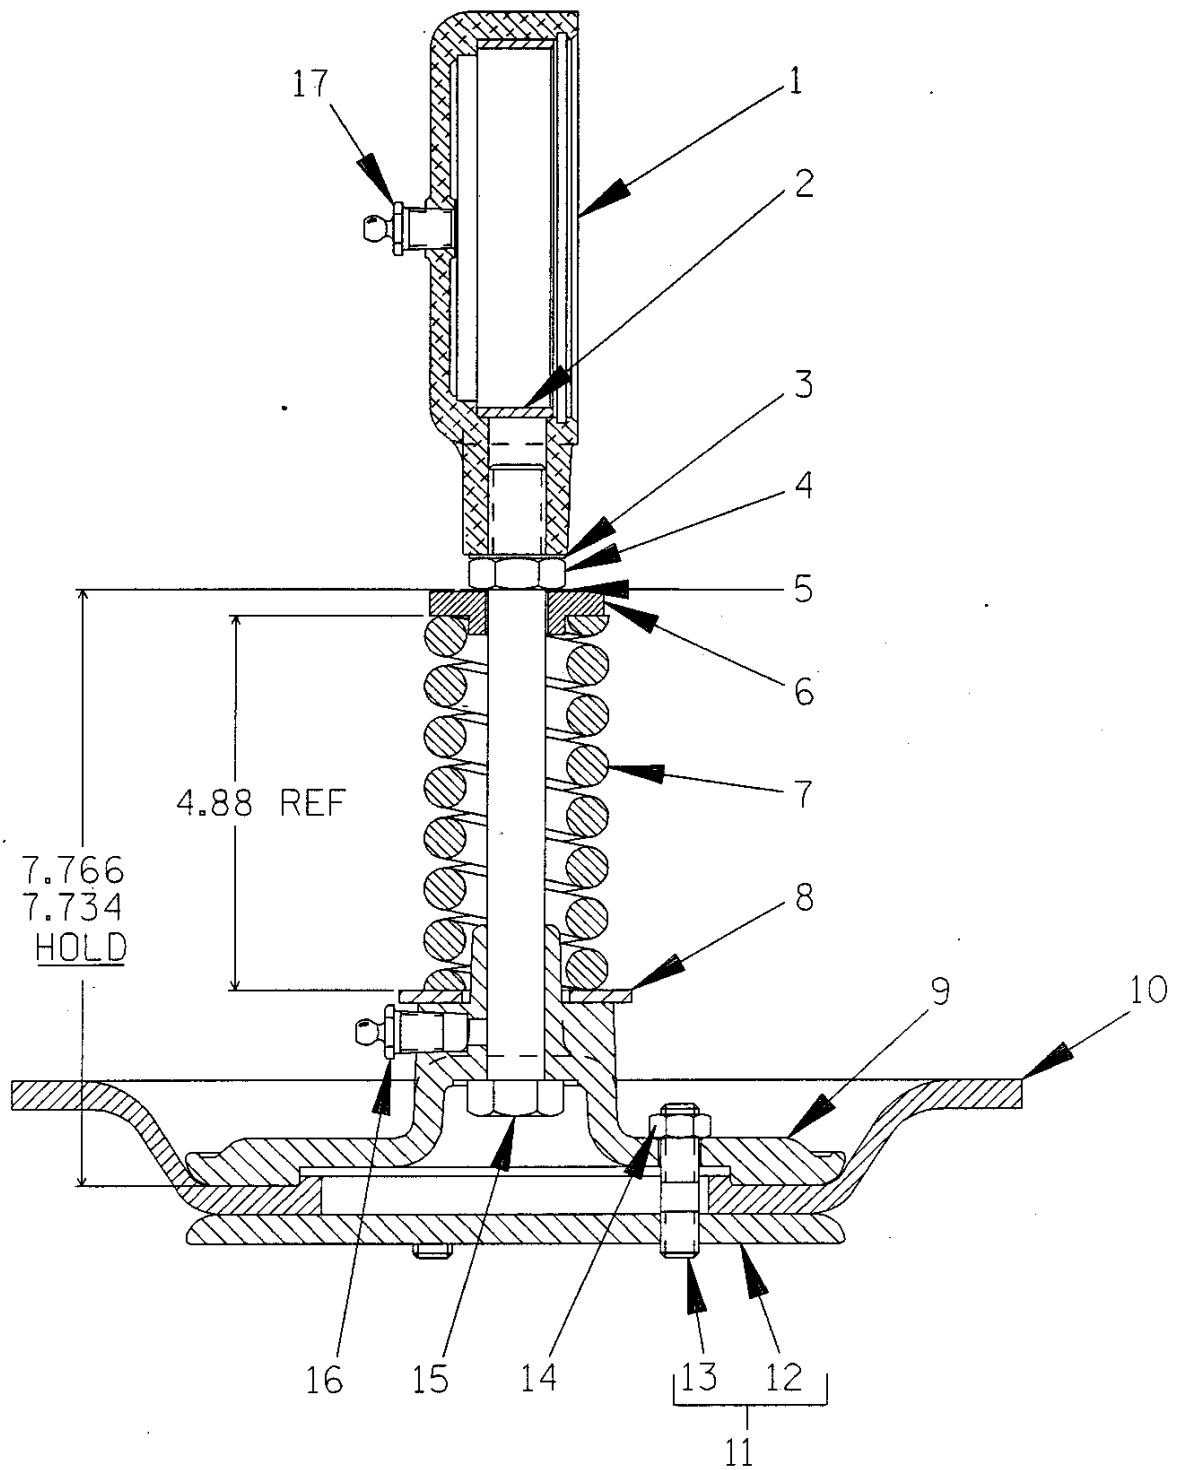

Figure 3. Standard 5685 And Optional 5685B Plunger Rod Assembly
To remove the diaphragm (10, Figure 3), disengage the hardware (30 and 31) and remove the diaphragm pot assembly (32). Inspect the diaphragm ring base assembly (17) for wear or damage. If replacement is required, the gearbox assembly (8) must be removed.
(Figure 3)